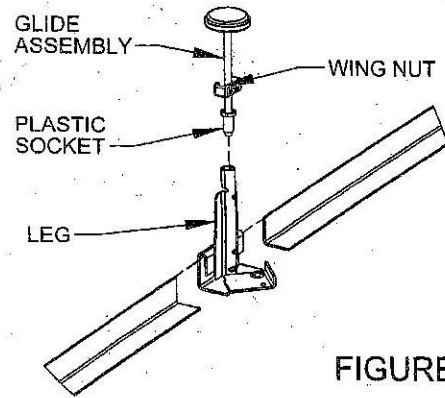

FIGURE 1
Step 1. Tap GLIDE ASSEMBLY into LEG until PLASTIC SOCKET is fully seated, or install PLX-18 Extension Kits if required. See Figure 1.